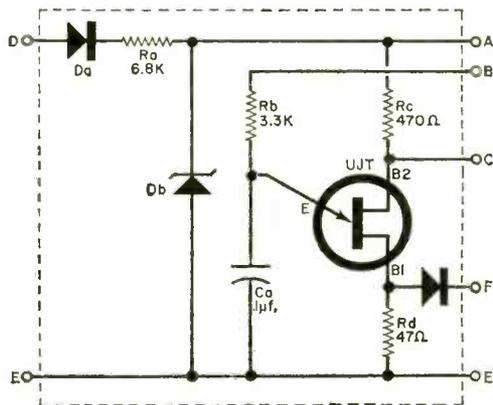

Fig. 1. Modified sawtooth signal across points B and E is fed to an external amplifier and speaker.
**The UJTO Circuit.** The heart of the Lumemin is a versatile UJTO (Unijunction Transistor Oscillator) module (Fig. 1), driven by a power supply and its photoconductive circuit. The UJTO pro-
Referring to Fig. 1, an a.c. input applied across *D* and *E* is rectified by diode *Da* and smoothed out by *Ra* and a 500- $\mu$ f. capacitor (*Ca*) in the power supply circuit. Zener diode *Db* limits any voltage surges from the power supply to maintain a constant potential at the unijunction transistor (UJT) base electrodes through *Rc* and *Rd*.
Recall from Fig. 1 that a modified
directly by the a.c. line, isolation transformer *T1* is used to insure greater safety and shock-free operation. Terminals *C* and *F* on the UJTO's circuit board (Fig. 1) are not used in this application.